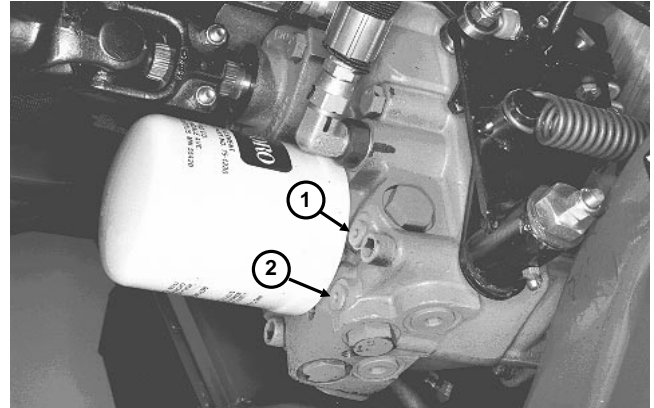

Figure 18
3. Connect a 5,000 psi gauge to traction circuit test port for function to be checked (Fig. 18).